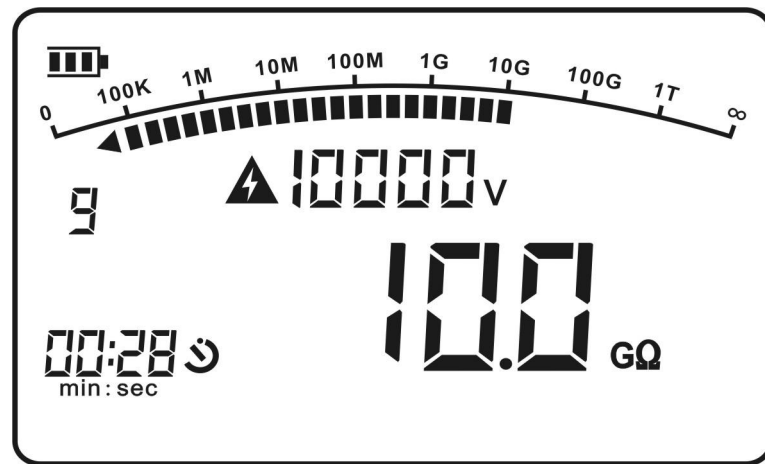

Figure 4 LCD display
4) LCD enters test mode display, as shown in figure 4.